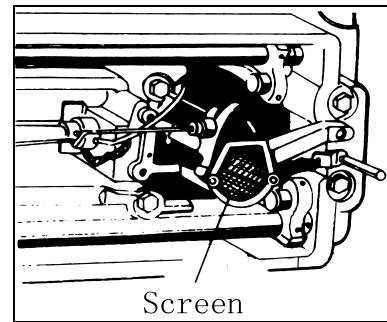

Fig. 36
3) Cleaning oil pump, screen (See Fig.36)